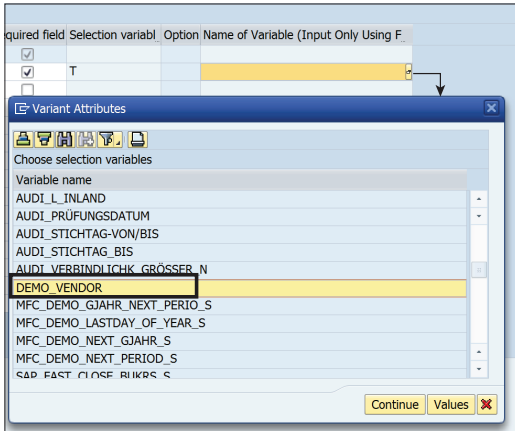

Figure 14.10 Selecting Variant
2. Use the **[F4]** help in the NAME OF VARIABLE column to select the variant created in Transaction STVARV (see Figure 14.10).